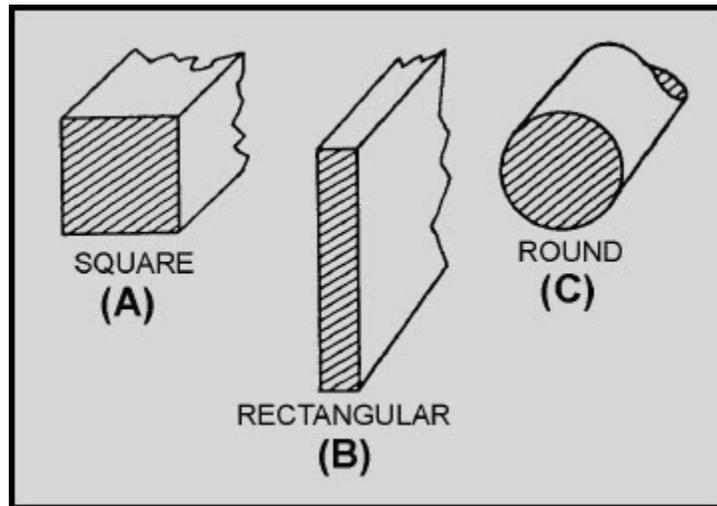
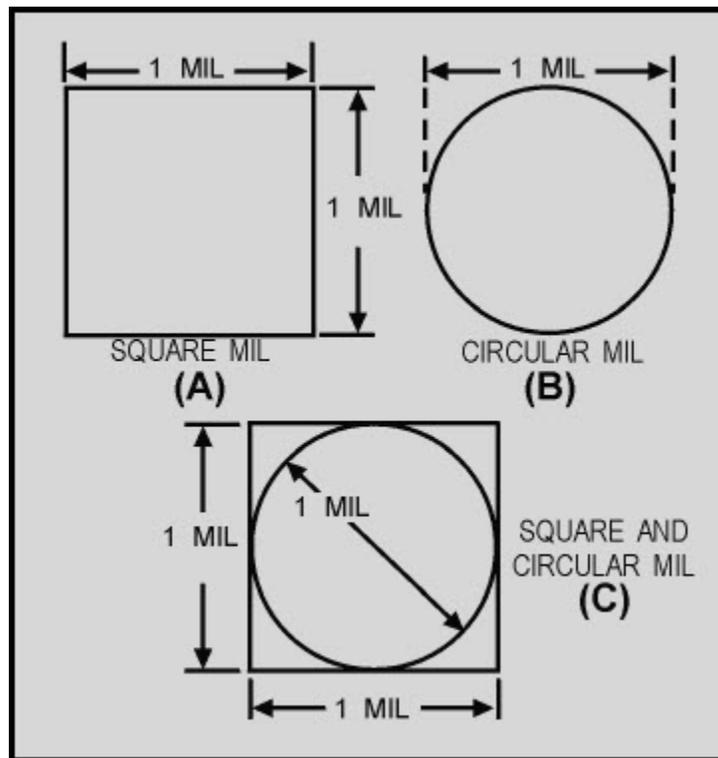

Figure 1-1 Cross-sectional areas of conductors
Figure 1-2 A comparison of circular and square mils
The square mil is a unit of measurement used to determine the cross-sectional area of a square or rectangular conductor (views A and B of figure 1-1). A square mil is defined as the area of a square, the sides of which are each 1 mil. To obtain the cross-sectional area of a square conductor, multiply the dimension of any side of the square by itself. For example, assume that you have a square conductor with a side dimension of 3 mils. Multiply 3 mils by itself (3 mils · 3 mils). This gives you a cross-sectional area of 9 square mils.
The circular mil is the standard unit of measurement of a round wire cross-sectional area (view C of figure 1-1). This unit of measurement is found in American and English wire tables. The diameter of a round conductor (wire) used to conduct electricity may be only a fraction of an inch. Therefore, it is convenient to express this diameter in mils to avoid using decimals. For example, the diameter of a wire is expressed as 25 mils instead of 0.025 inch. A circular mil is the area of a circle having a diameter of 1 mil, as shown in view B of figure 1-2. The area in circular mils of a round conductor is obtained by squaring the diameter, measured in mils. Thus, a wire having a diameter of 25 mils has an area of 25^2 , or 625 circular mils. To determine the number of square mils in the same conductor, apply the conventional formula for determining the area of a circle ($A = \pi r^2$). In this formula, A (area) is the unknown and is equal to the cross-sectional area in square mils, π is the constant 3.14, and r is the radius of the circle, or half the diameter (D). Through substitution, $A = 3.14 \cdot (12.5)^2$; therefore, $3.14 \cdot 156.25 = 490.625$ square mils. The cross-sectional area of the wire has 625 circular mils but only 490.625 square mils. Therefore, a circular mil represents a smaller unit of area than the square mil.
If a wire has a cross-sectional diameter of 1 mil, by definition, the circular mil area (CMA) is $A = D^2$, or $A = 1^2$, or $A = 1$ circular mil. To determine the square mil area of the same wire, apply the formula $A = \pi r^2$; therefore, $A = 3.14 \times (.5)^2$ (.5 representing half the diameter). When $A = 3.14 \times .25$, $A = .7854$ square mil. From this, it can be concluded that 1 circular mil is equal to .7854 square mil. This becomes important when square (view A of figure 1-2) and round (view B) conductors are compared as in view C of figure 1-2.